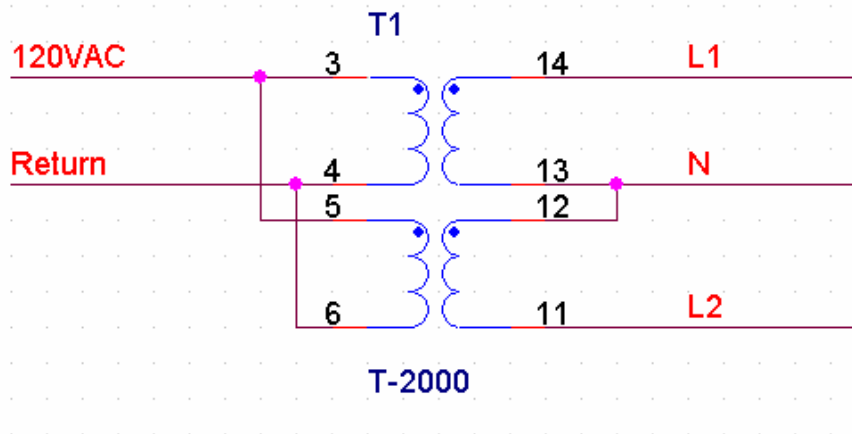

Figure 2 Buck-Boost Transformer
- a. **Input Power:** In order to mimic this installation a 240VAC single phase circuit was developed. It consists of a Buck-Boost Transformer to step the 120 VAC single phase line to 240 VAC. Figure 2 illustrates the transformer connections.